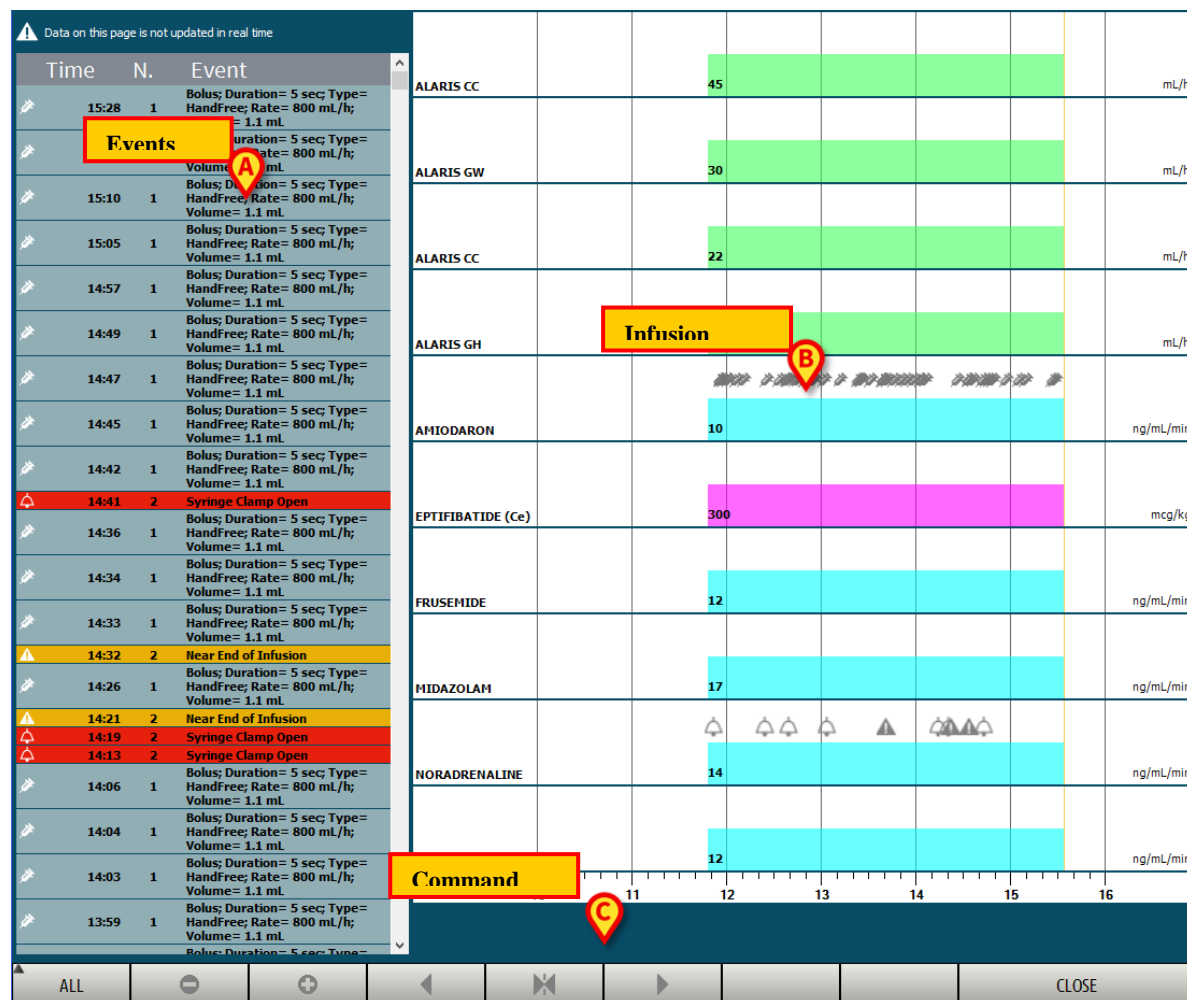

Fig 19
- a list of all the events occurred on all the pumps connected to the selected patient during his stay (Fig 19 A – see page 18);
- a chart representing all the patient’s infusions (Fig 19 B – see page 20);
- a command bar making it possible to manage the chart display mode (Fig 19 C – see page 19).